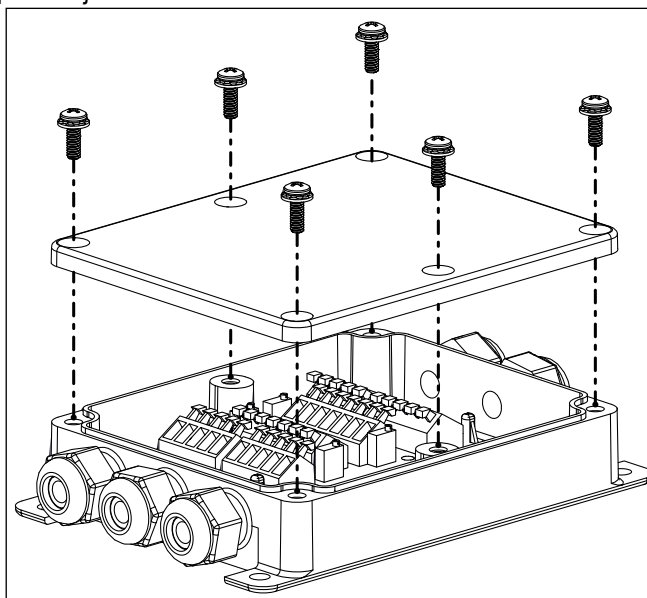

Figure 2-7. Open Junction Box
5. Remove the six screws from the junction box cover (see Figure 2-7).